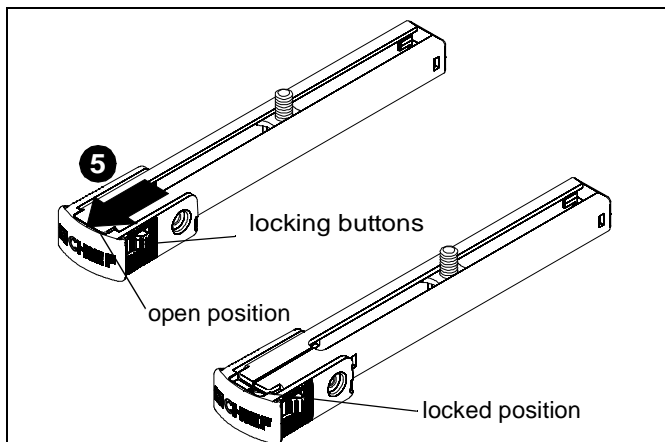

Figure 5
5. Press locking buttons on SSBU/SSMU leg (C) firmly and simultaneously push clip cover away from enclosed sliding stud mount bracket until clip cover is in the locked position. (See Figure 5)